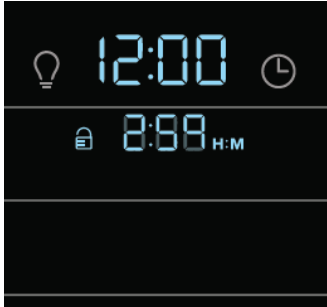

Figure 32: Clean cycle in progress
- During the clean cycle the time of day remains in the display and the time remaining in the clean cycle will also be active. (Figure 32)